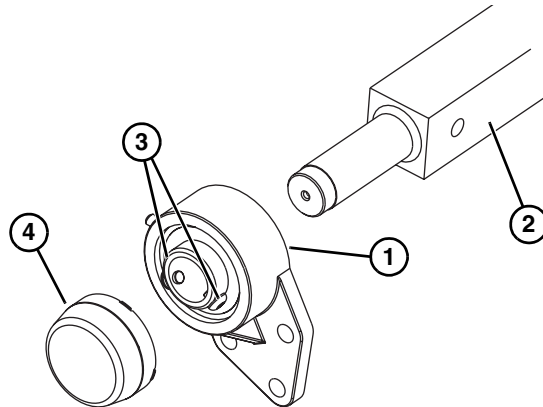

Figure 81
5. Slide the bearing flange assembly (**Figure 81, item 1**), onto the spindle shaft end (**Figure 81, item 2**).
6. Use a hex wrench to tighten the bearing shaft assembly fasteners (**Figure 81, item 3**).
7. Install the bearing cover (**Figure 81, item 4**).